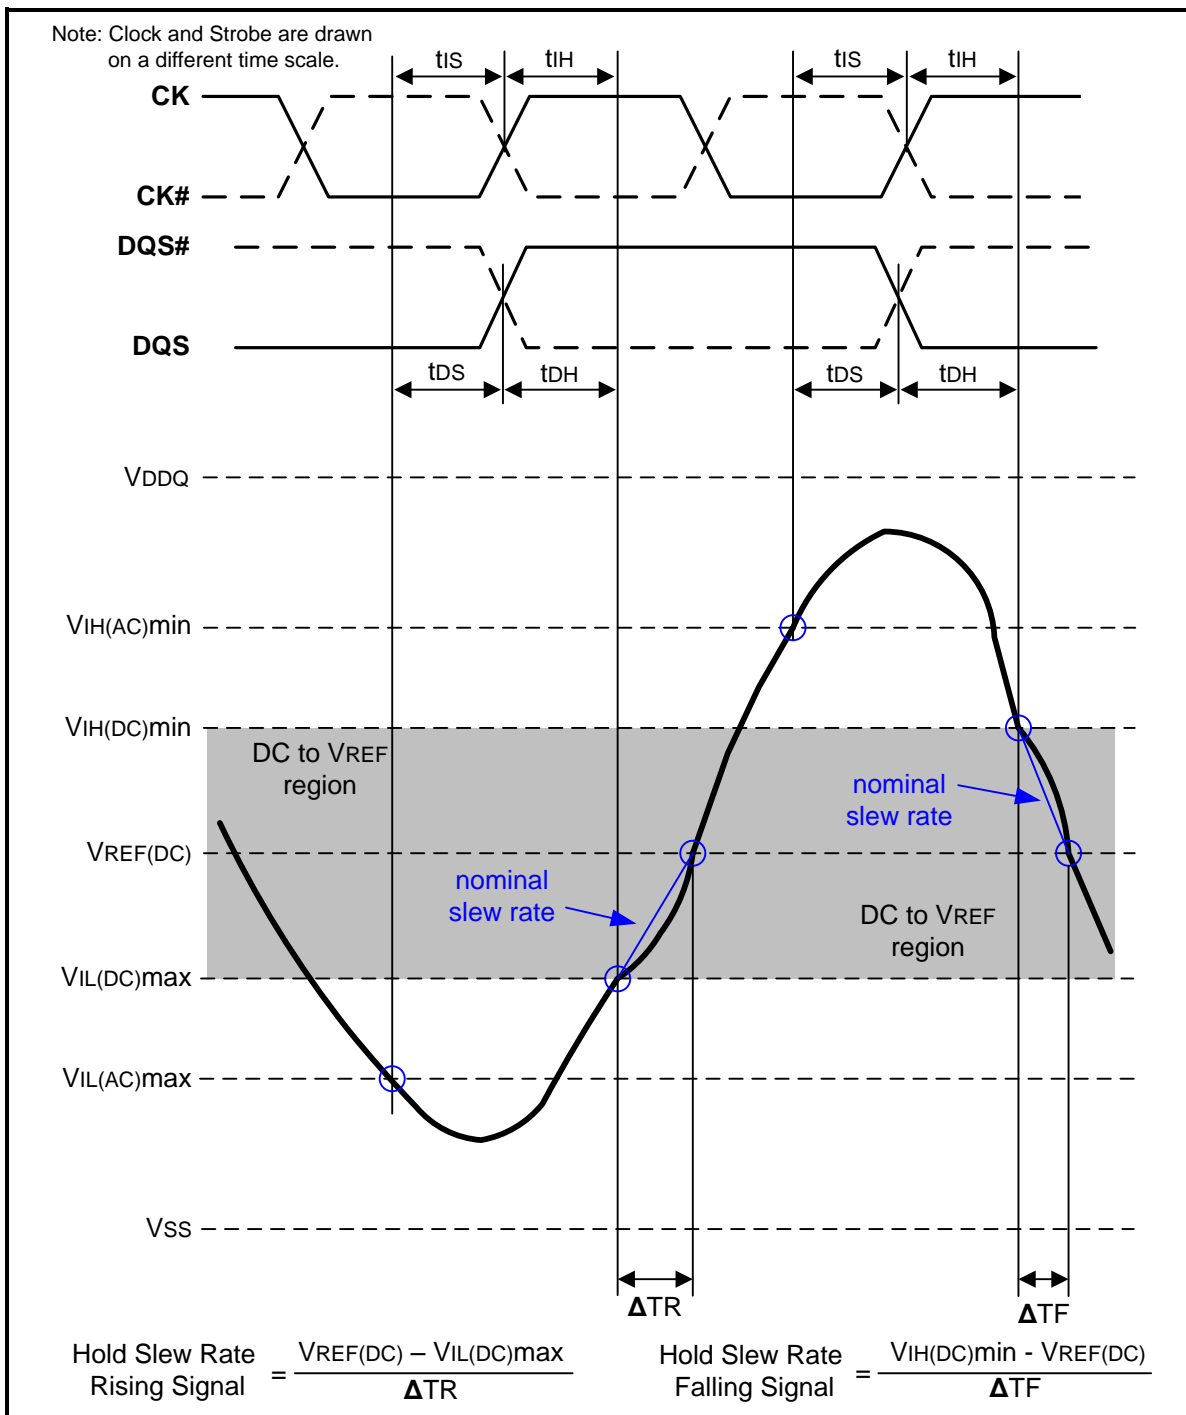
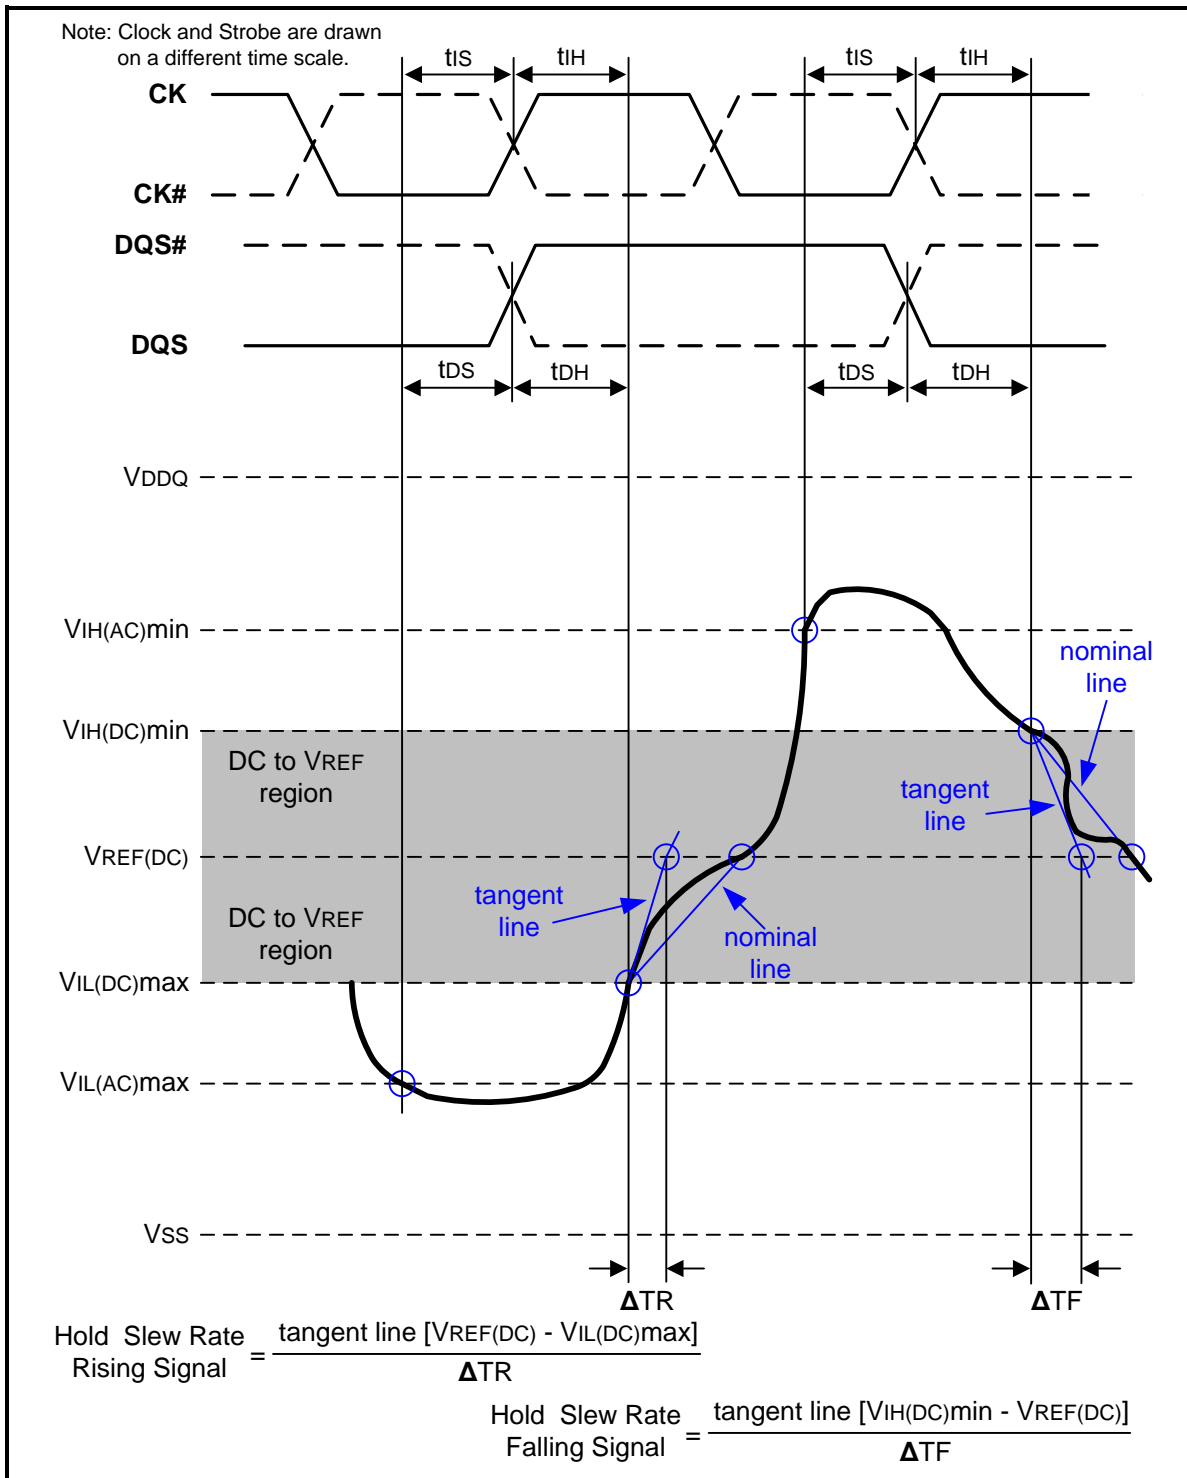

Figure 108 – Illustration of nominal slew rate for hold time t_{DH} (for DQ with respect to strobe) and t_{IH} (for ADD/CMD with respect to clock)
Figure 110 – Illustration of tangent line for hold time t_{DH} (for DQ with respect to strobe) and t_{IH} (for ADD/CMD with respect to clock)
Hold (t_{IH}) nominal slew rate for a rising signal is defined as the slew rate between the last crossing of $V_{IL}(\text{DC})_{\text{max}}$ and the first crossing of $V_{REF}(\text{DC})$. Hold (t_{IH}) nominal slew rate for a falling signal is defined as the slew rate between the last crossing of $V_{IH}(\text{DC})_{\text{min}}$ and the first crossing of $V_{REF}(\text{DC})$. If the actual signal is always later than the nominal slew rate line between shaded 'DC to VREF(DC) region', use nominal slew rate for derating value (see Figure 108). If the actual signal is earlier than the nominal slew rate line anywhere between shaded 'DC to VREF(DC) region', the slew rate of a tangent line to the actual signal from the DC level to $V_{REF}(\text{DC})$ level is used for derating value (see Figure 110).
Hold (tDH) nominal slew rate for a rising signal is defined as the slew rate between the last crossing of VIL(DC)max and the first crossing of VREF(DC). Hold (tDH) nominal slew rate for a falling signal is defined as the slew rate between the last crossing of VIH(DC)min and the first crossing of VREF(DC) (see Figure 108). If the actual signal is always later than the nominal slew rate line between shaded 'DC level to VREF(DC) region', use nominal slew rate for derating value. If the actual signal is earlier than the nominal slew rate line anywhere between shaded 'DC to VREF(DC) region', the slew rate of a tangent line to the actual signal from the DC level to VREF(DC) level is used for derating value (see Figure 110).